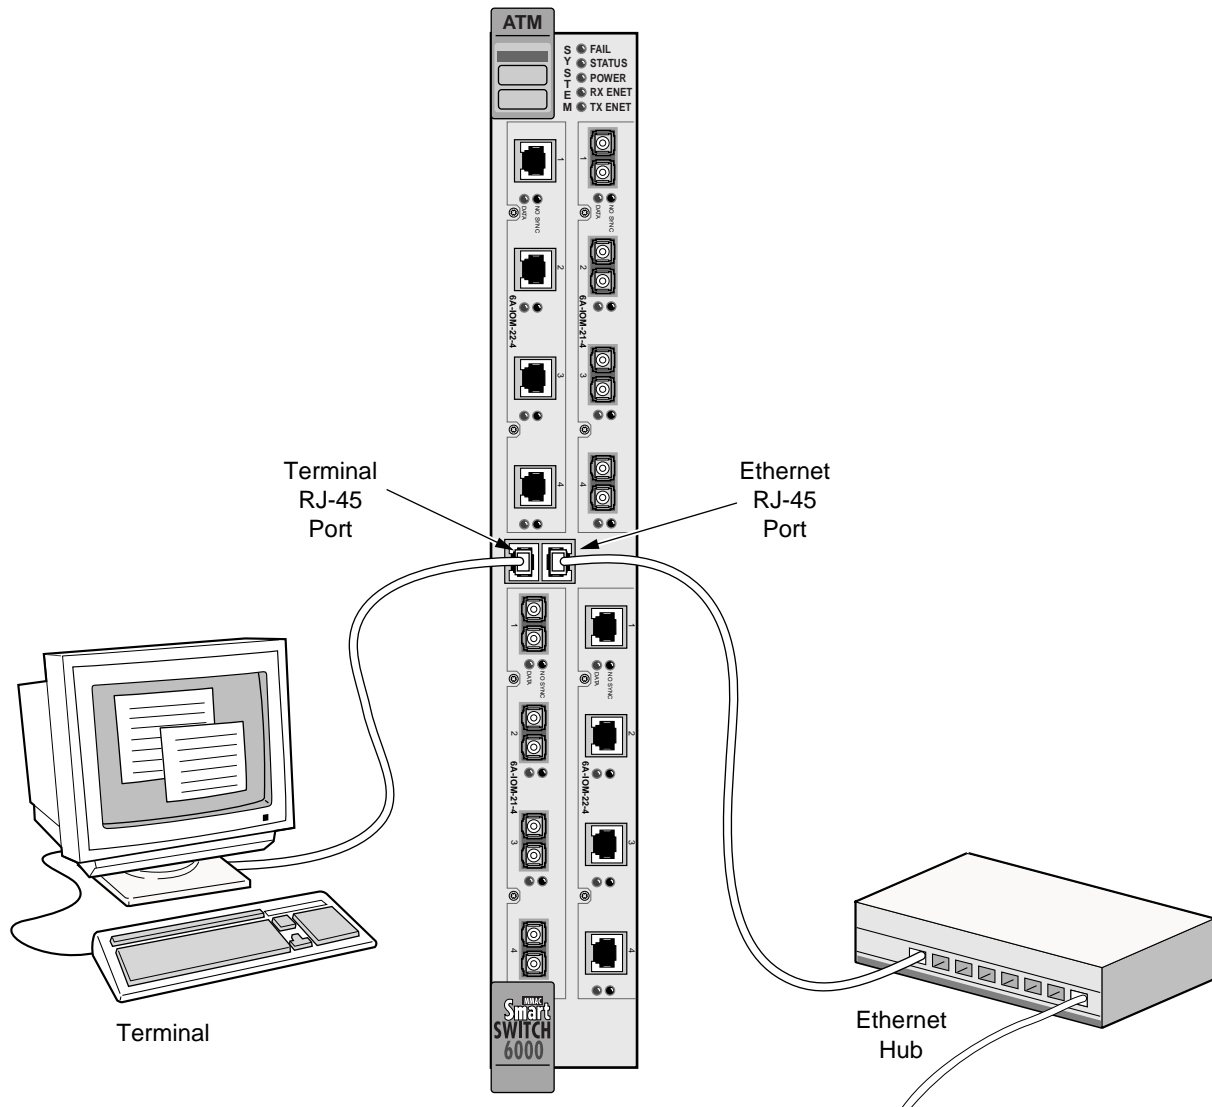

Figure 2-5 6A000 console and network connections
4. Plug the other end of the UTP cable into the SmartCell 6A000 female RJ-45 jack labeled Terminal, located on the front panel (see Figure 2-5).
5. Connect the switch to your network by plugging a UTP cable into the SmartCell 6A000 female RJ-45 jack labeled Ethernet, located at the lower right of the switch's front panel (see Figure 2-5).